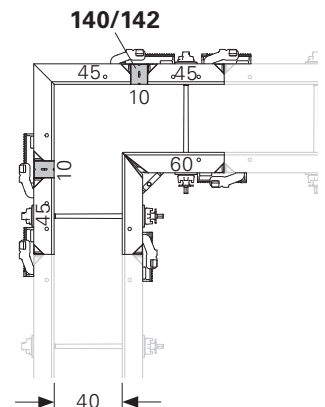

Fig. D2.08
- Wall thickness 40: Fig. D2.08 + D1.06a/c + D2.06b/d